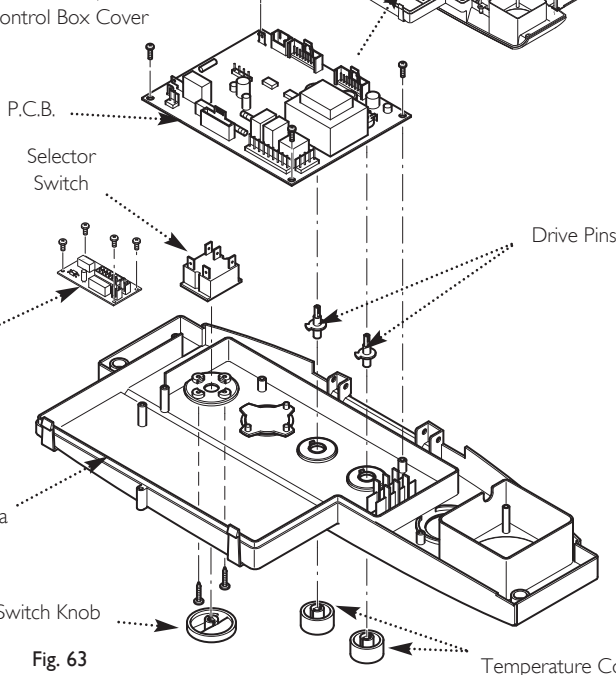

Fig. 63
13.20 Selector Switch (Fig. 63)